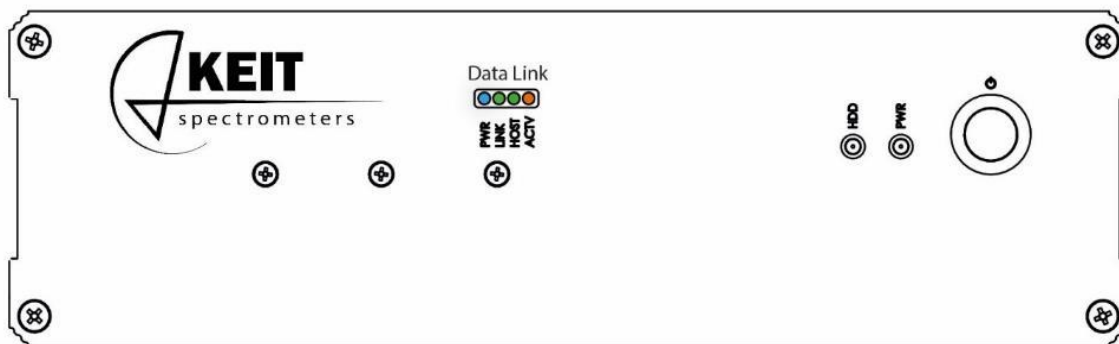

Figure 6: Front panel of Keit controller
- Check that the green and orange lights on the controller are present (Figure 6)